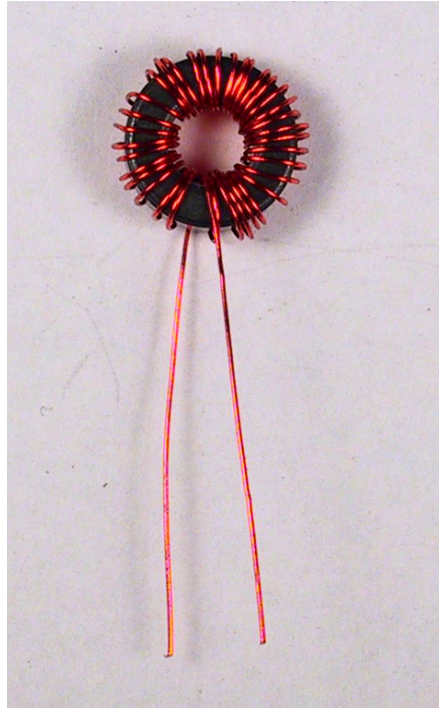

Figure 6 Completed L1 before tinning
- Wind 36 turns of wire around the toroid. Leave 1" of wire at the start. Each pass through the center counts as 1 turn. Figure 6 shows the completed inductor.